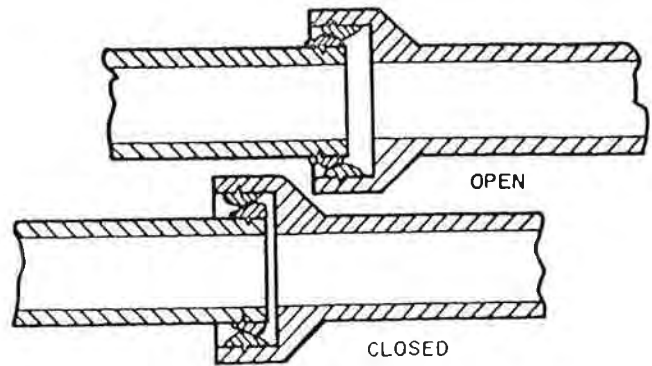

Fig. 3-2. Flexible joint for vitrified clay pipe.
3.07 Figure 3-2 shows a newer type of joint, which is flexible, and commonly used for joining vitrified clay pipe. The sealing elements are made from natural or synthetic rubber or from a plastic that successfully resists the corrosive effects of the fluids carried by the pipe.